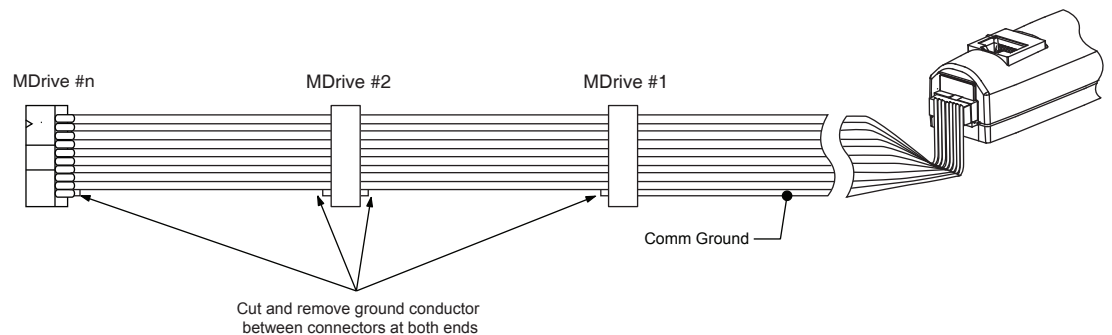

Figure F.3: Configuring the MD-CC400-001 for Multi-drop (Party Mode) Communications
2. Remove the ground conductor (Pin 10) between all connectors except the connector for the first MDrive in the daisy chain. This is to prevent communication errors and and potential damage due to ground loops. See Figure F.3